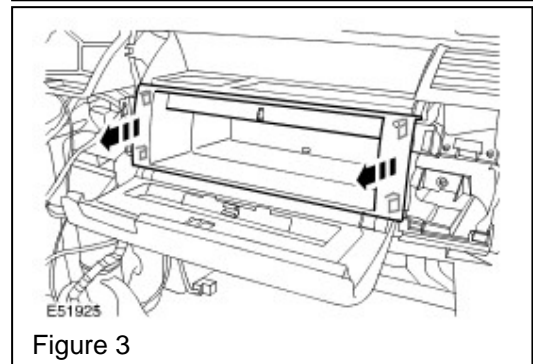

Figure 3
3. Remove the stowage compartment tray. (Figure 3)